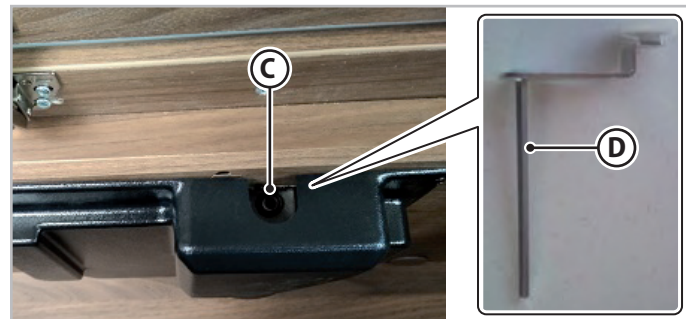

Fig.6.20 - Releasing a Type A electric bed
2. Insert the Allen wrench (**D** - Fig.6.20) into the screw (**C** - Fig.6.20) in order to manually move the bed; this is located on the front of the motor.